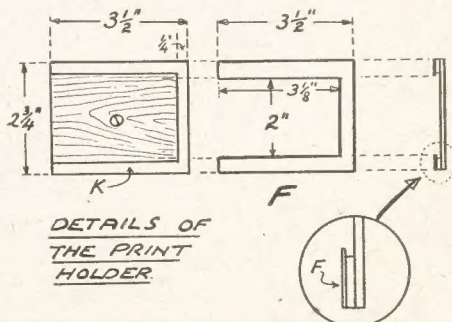

Fig. 3—Details of the holder parts
the end and top and bottom and then upon this gluing a piece of card cut as (F) Fig. 3. The inside measurements are 3½ ins. by 2 ins.—a trifle narrower than the first card. This forms the lip as shown in the inset sketch.